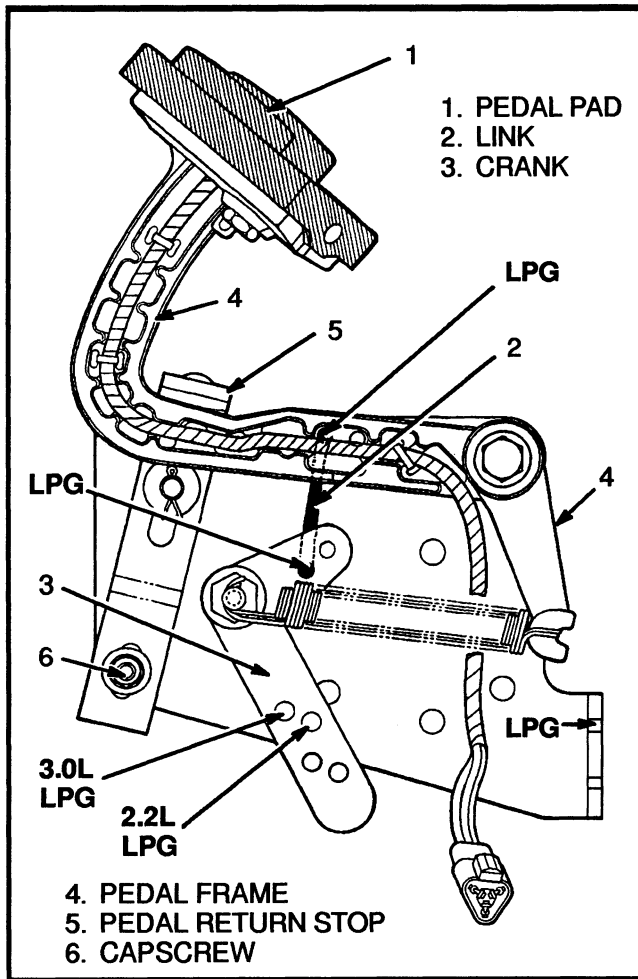

FIGURE 19. MONOTROL PEDAL
4. Adjust the pedal return stop (see FIGURE 19.) so that there is no tension on the throttle cable at the idle position. Do the following to check this adjustment:
Check The Monotrol Pedal (See FIGURE 19.)